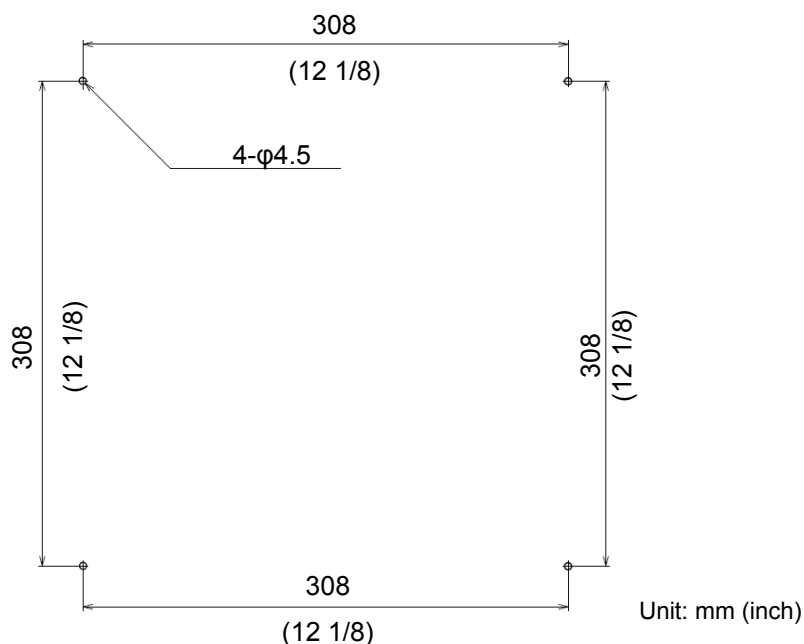

Fig. 1.2 Position of installation hole of Processor unit
- (1) Please determine the place where the Processor unit will be mounted with enough space for the maintenance.
- (2) Make 4 holes at the location to be installed (See Fig. 1.2)
- (3) Install the Processor unit in the installing location (installation hole) and fix it with 4 tapping screws (4mm) (M4 or pan-head). (Prepare 4mm screws suitable for thickness of installing location.)